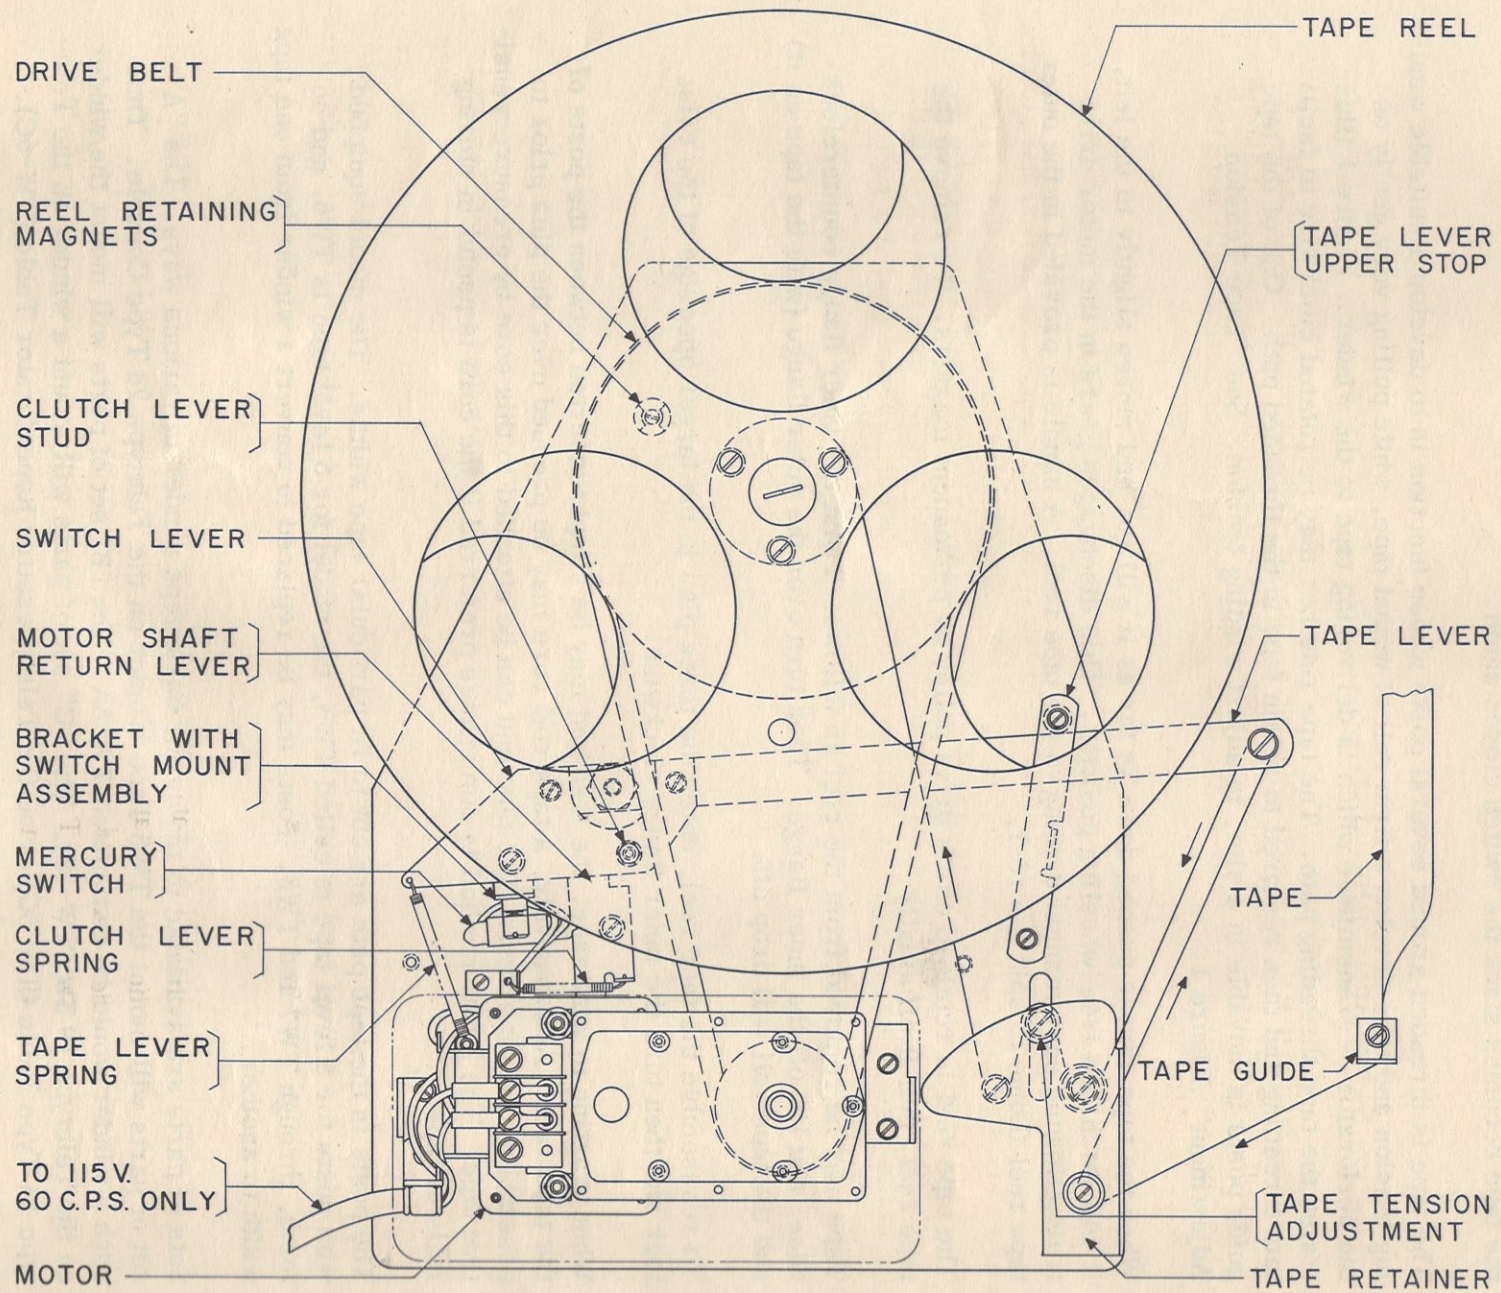

FIG. 1
The tape is threaded around several posts whose function is to develop a suitable winding tension and thus develop a firm roll of wound tape, while pulling very gently on the perforator or transmitter which is delivering tape to the winder. Figure 1 illustrates the tape threading path. The tape retainer may be rotated clockwise to facilitate threading and then restored to retain tape in the threaded path. One of the tape guide posts is movable in a slot, to adjust winding tension. See "Tape Tension Adjustment" Figure 1.
1. Mercury Switch Adjustment. Fig. 1
2. Clutch Lever Stud Adjustment. Fig. 1
3. Tape Lever Spring Tension. Fig. 1
4. Clutch Lever Spring Tension. Fig. 1
5. Tape Tension Adjustment. Fig. 1